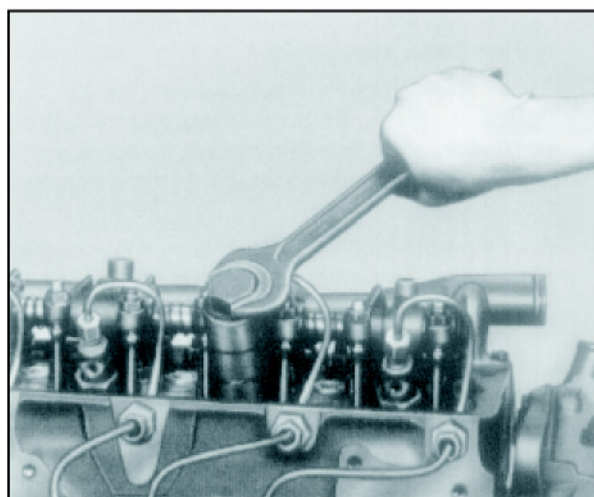

Fig. 16
7. Remove nozzle holder with puller, 000 589 0119. Fig. 16.